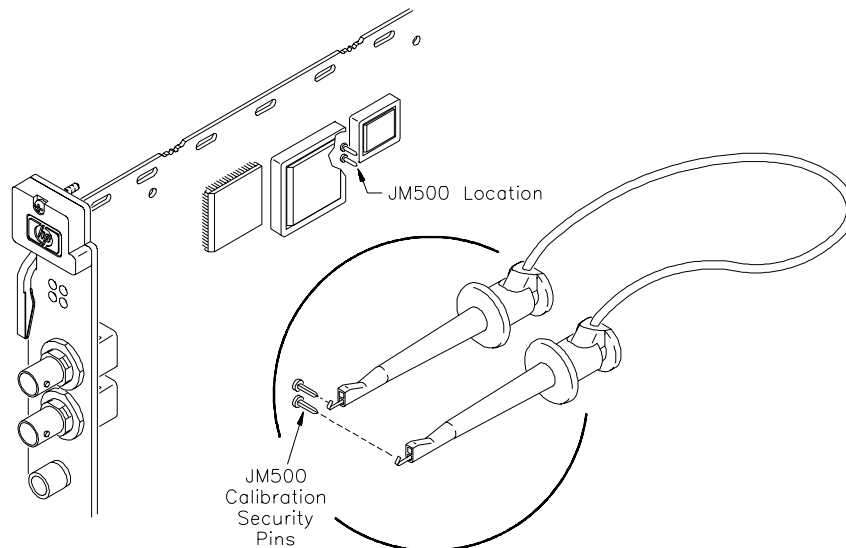

Figure 5-1. Overriding Calibration Security
4. Short the two pins labeled JM500 by applying a jumper between the pins (see Figure 5-1).